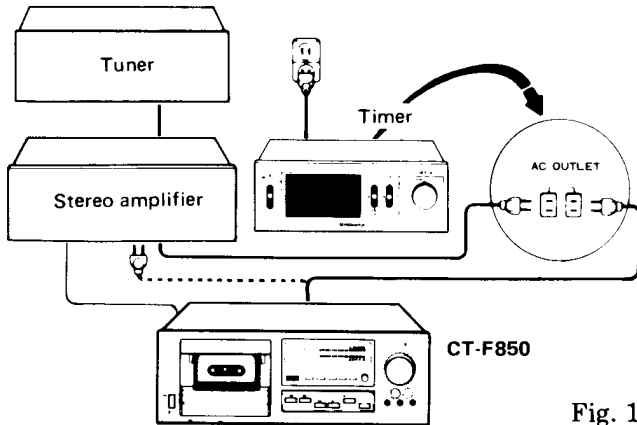

Fig. 1
1. As shown in Fig. 1 connect the CT-F850's power cord to the timer. At the same time connect the power cord of the stereo component (receiver, tuner, or amplifier, etc.) which is connected to the CT-F850 so that the power ON/OFF functions of that component are controlled by the timer.
1. Connect the deck as in Fig. 1, and set the controls following the procedure under "Playback" steps 1 to 5 on page 11.